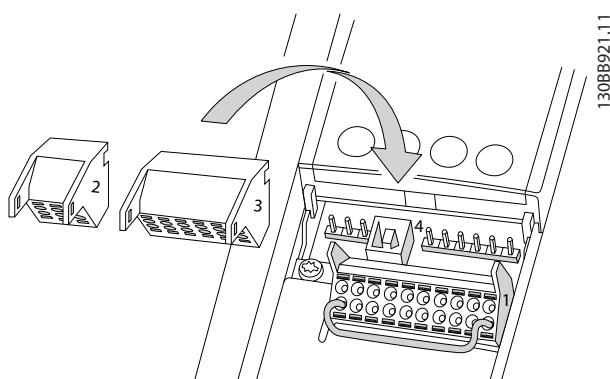
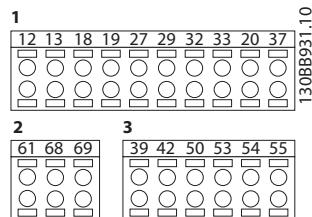

Figure 4.7 Control Terminal Locations
Figure 4.8 Terminal Numbers
*Figure 4.7* and *Figure 4.8* show the removable frequency converter connectors. Terminal functions and default settings are summarised in *Table 4.2*.